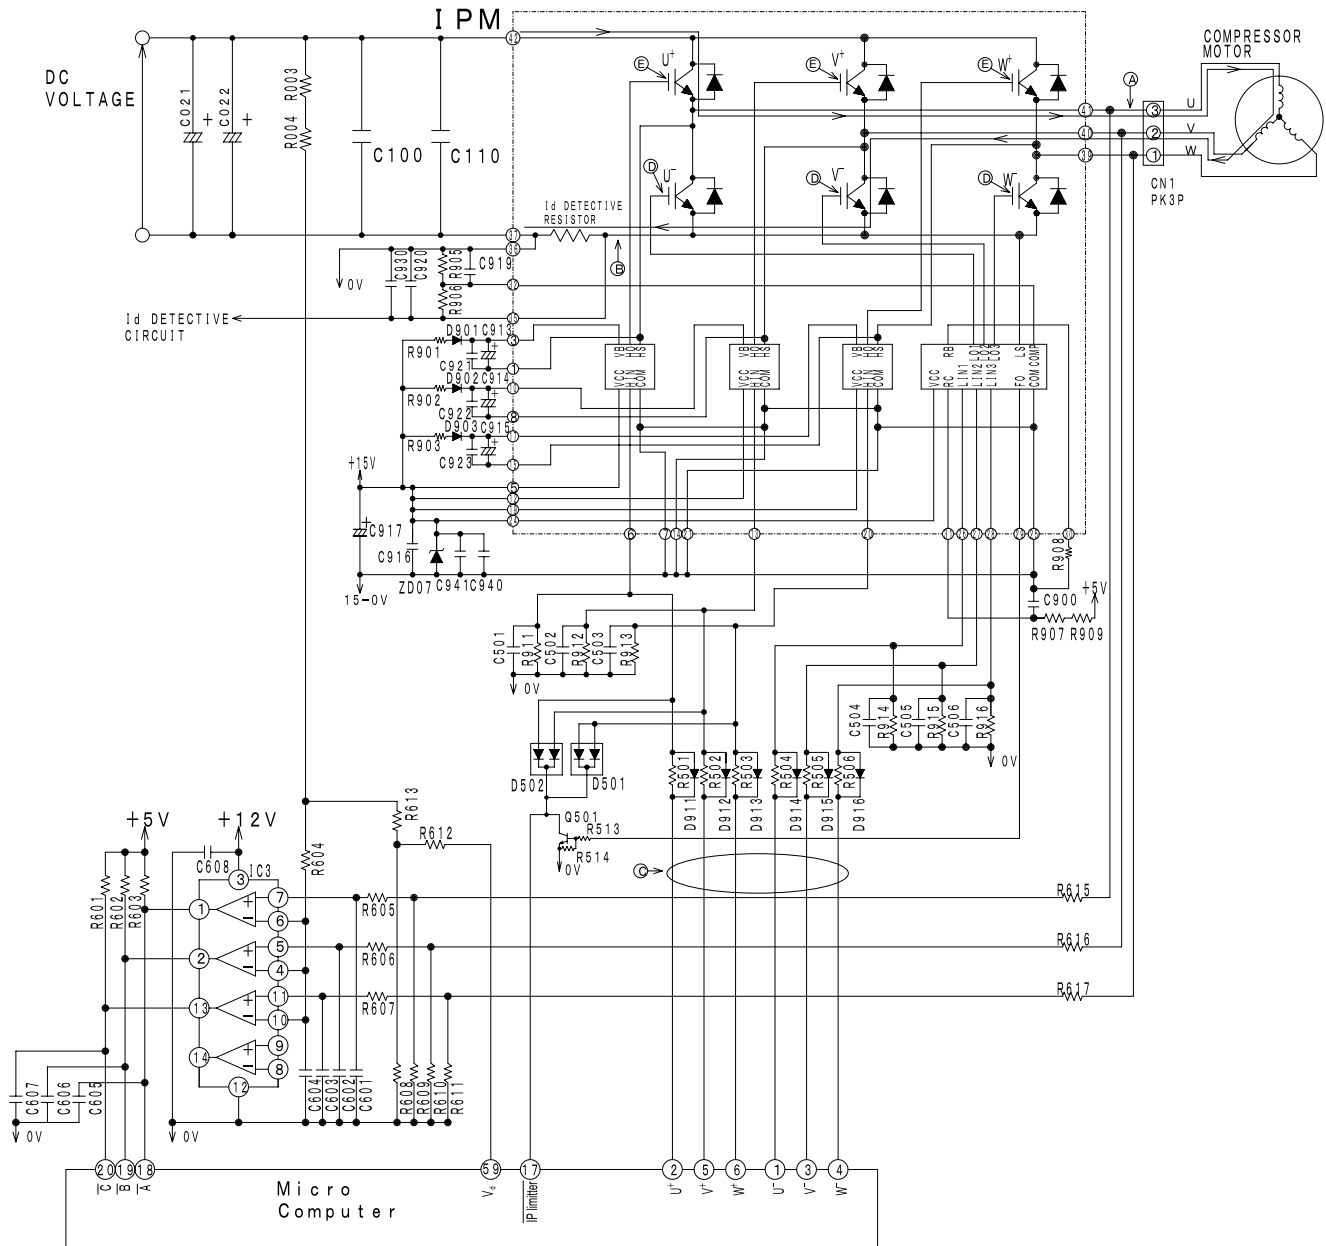
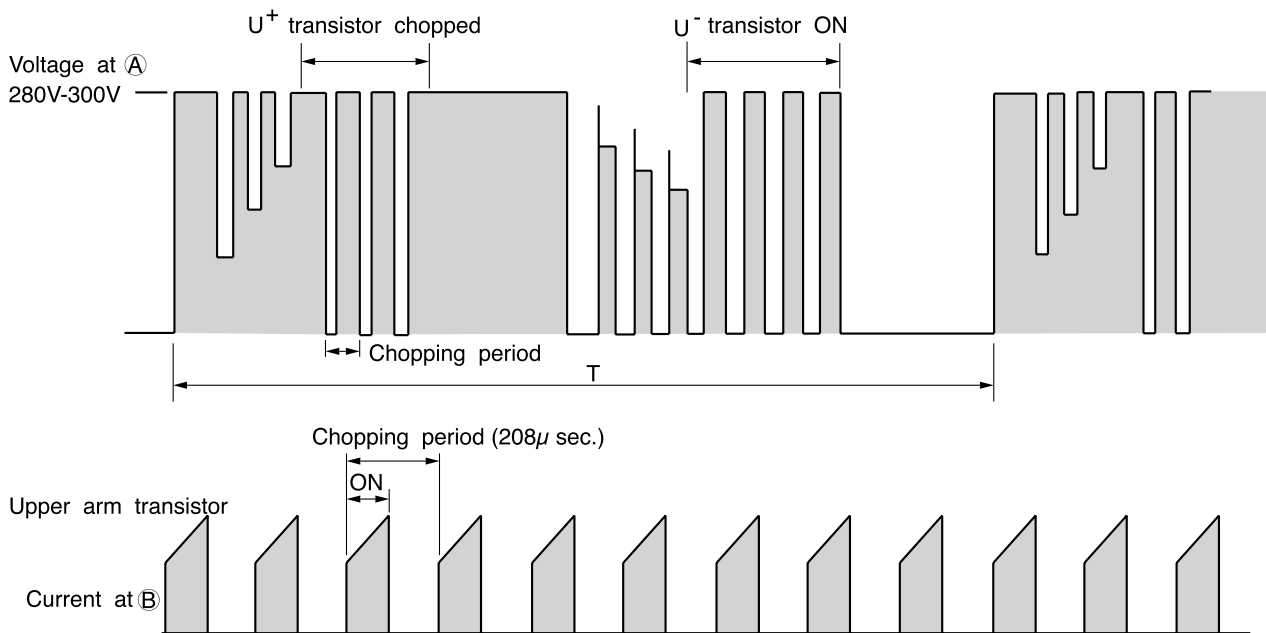

Fig. 4-1 Intelligent power module circuit (U^+ is ON, V^- is ON)
Fig. 4-3 Voltage waveform at each point
- Fig.4-1 shows the intelligent power module and its peripheral circuit.
At point ⑤: U⁺ is ON, V⁻ is ON (circuit in Fig.4-1)
Fig. 4-3 shows voltage waveform at each point shown in Figs. 4-1 and 4-4. First half of upper arm is chopper, second half is ON, and first half of lower arm is chopper, second half is ON.
- (1) When U⁺ transistor is ON: U⁺ transistor → U coil → V coil → V⁻ transistor → DC current detection resistor → Point ⑤ (Fig. 4-1)
Since current flows at point ② only when U⁺ transistor and V⁻ transistor is ON, the current waveform at point ② becomes intermittent waveform as shown in Fig.4-3. Since current at point ② is approximately proportional to the input current of the air conditioner, input current is controlled by using DC current (Id) detection resistor.